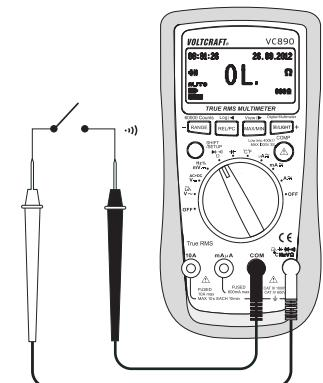

Fig. 7
- Turn on the DMM and select the measuring range “ Ω ”. Press the SHIFT/SETUP button (3) until the continuity test symbol $\rightarrow\!\!\!$ appears.
- Insert the red test lead in the $^{\circ}\text{CHzV}\Omega$ measuring socket (7), the black test lead in the COM measuring socket (8) (Fig. 7).